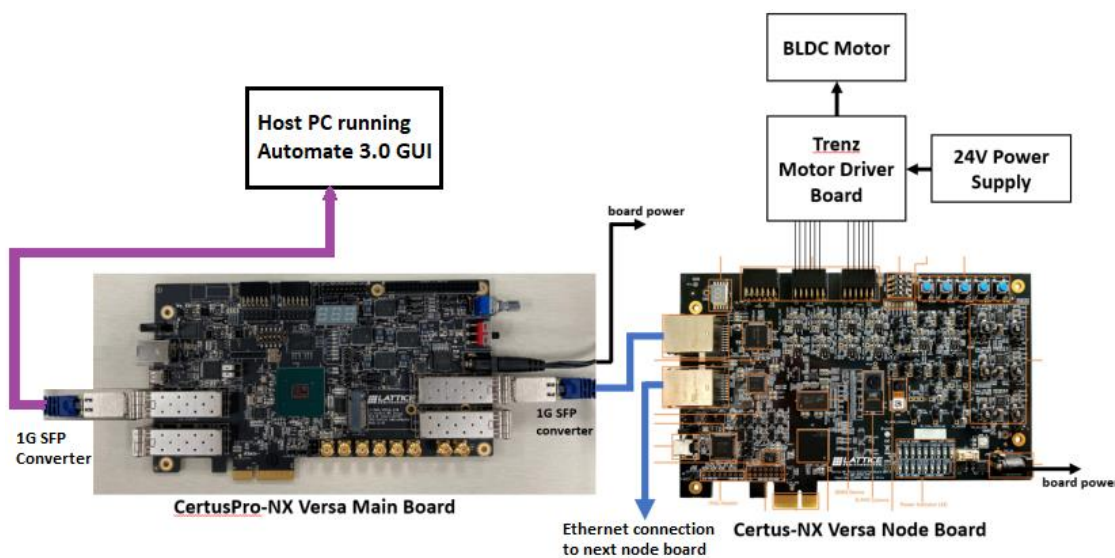

Figure 4.1. System Setup with Host PC (Example with One Node)
Details of hardware connections are illustrated in Figure 4.1.
1. Hardware should be connected properly as shown in Figure 4.1.